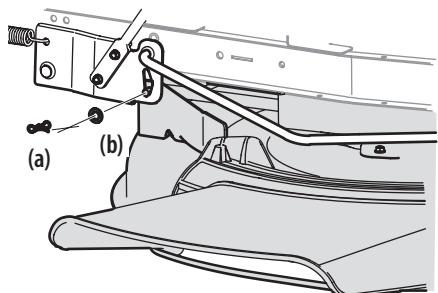

Figure 28
3. Remove the bow-tie cotter pin (a) and flat washer (b) from the deck lift assembly and retain for reinstallation later. See Figure 28.